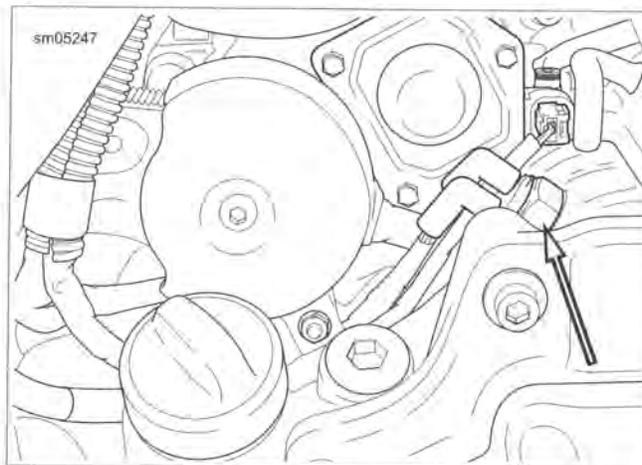

Figure 7-73. Neutral Switch
2. See Figure 7-73. Remove two elbow connectors from neutral switch posts.